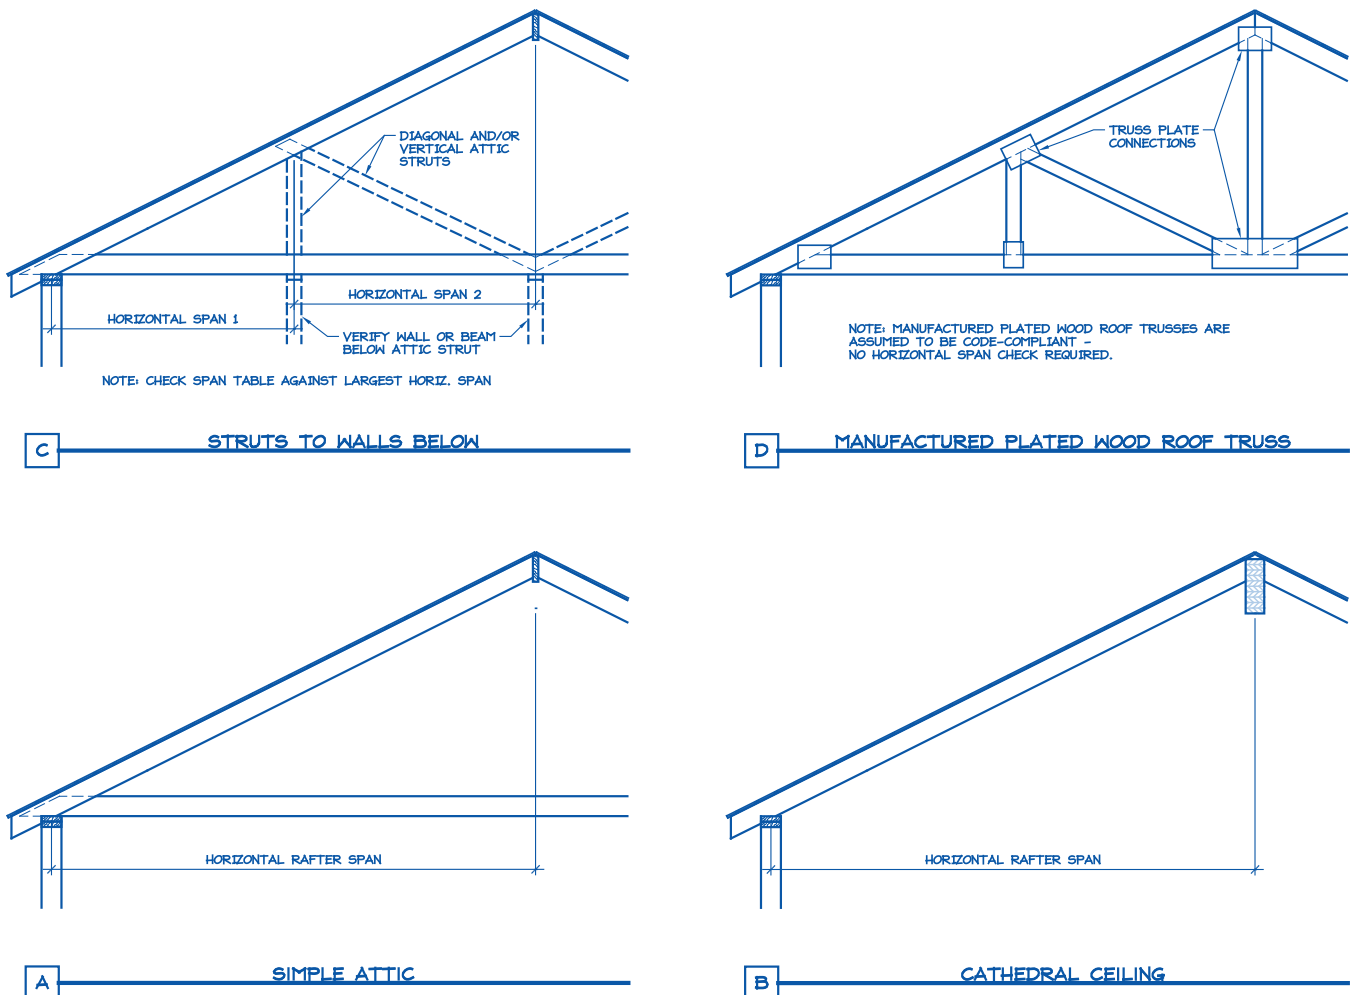

Figure 4. Definition of Rafter Horizontal Span.
- 5) Longest measured rafter horizontal span (see Figure 4): 10 _____' - 3 _____" (ft-in)
1. See Figure 4 for definition of roof rafter maximum horizontal span.